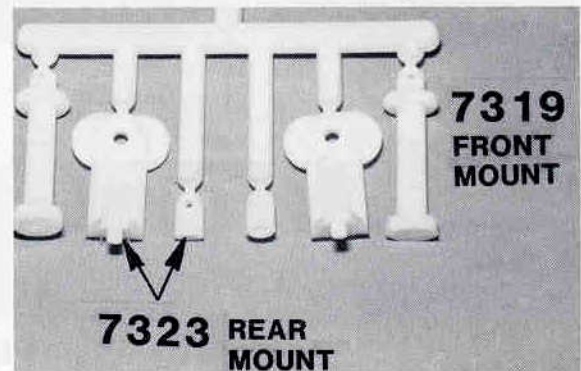
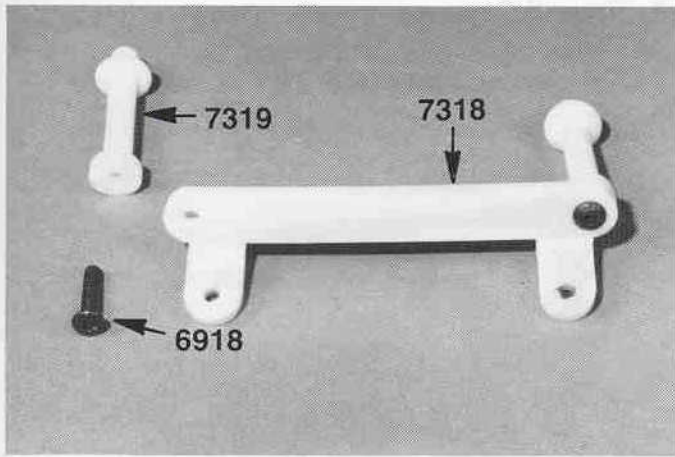
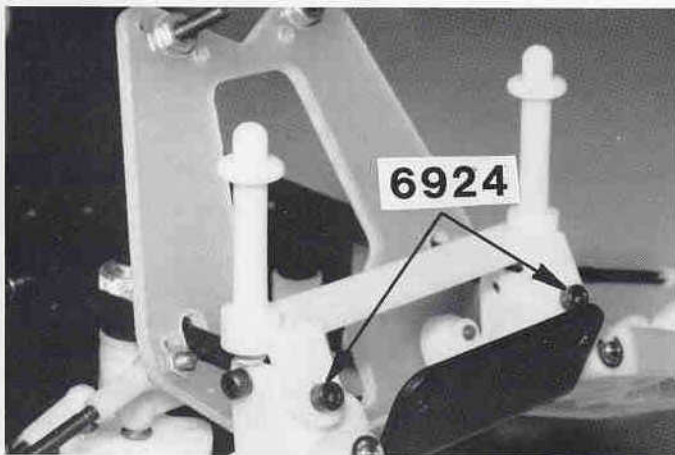

Fig. 39
Fig. 40
Fig. 40A
□ **Figs. 39, 40 & 40A** (1) Locate bag #7-5 then remove body mount tree. (Fig. 39 shows the location of the front and rear body mounts on the parts tree.) (2) Remove the two #7319 front body mounts. (3) Go back to bag #7-5 and remove the #7318 front body mount brace and the two #6918 4-40 x 1/2" BHSScrews. (4) Using the two #6918 screws, mount the #7319 front body mounts onto the #7318 front body mount brace as shown in fig. 40. **Note:** Install a #6332 body clip in its mounting hole to hold the mount while you tighten the screw. (5) The small body clip holes should point to the left and right. (6) Tighten the screws, but not too tight. (7) Now we install the front body mount brace assembly to the front bulkhead. Take two #6924 4-40 x 3/8" SHCScrews from bag #7-5. (8) Install the body mount brace over the front bulkhead, facing towards the back. This will put the body mounts over the bulkhead as well and they will be pointing straight up, not at an angle, when properly installed as shown in fig. 40A.